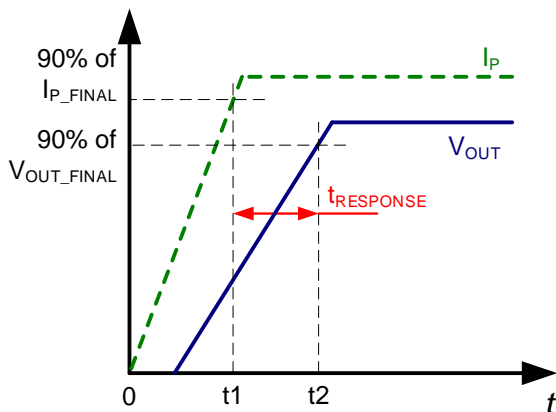

Figure 8: Response Time ( $t_{\text{RESPONSE}}$ )
2.  $t_2$ :  $V_{OUT}$  reaches 90% of  $V_{OUT\_FINAL}$ , as it corresponds to the applied  $I_P$  (see Figure 8).